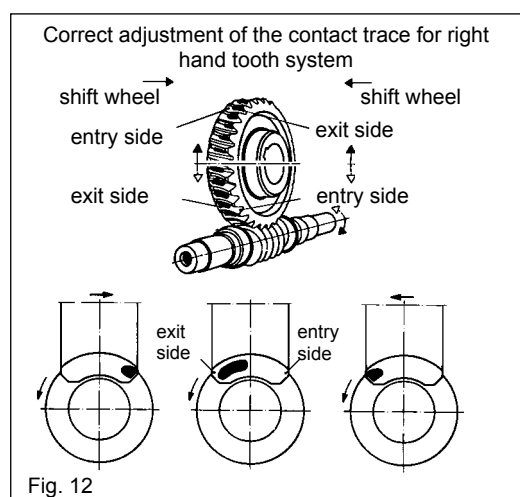

Fig. 12
Turn the worm shaft a few turns and inspect the contact trace on the worm wheel. The shifting direction of the wheel by adding or removing the lower shim discs (5) can be taken from figure 12.
6.4.3.1 You now can set the control dimension of 46,15 – 0,1 mm given on the sectional drawing by adding or removing the upper shim discs (5). Make sure that surfaces are absolutely clean.